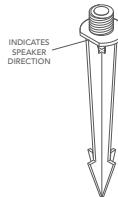

Figure 2
2. Using a rubber mallet, carefully pound the included satellite ground stakes into the ground at the predetermined mounting locations. Note the flat indicator on the stake and ensure this indicator faces the desired speaker direction (see Figure 2).